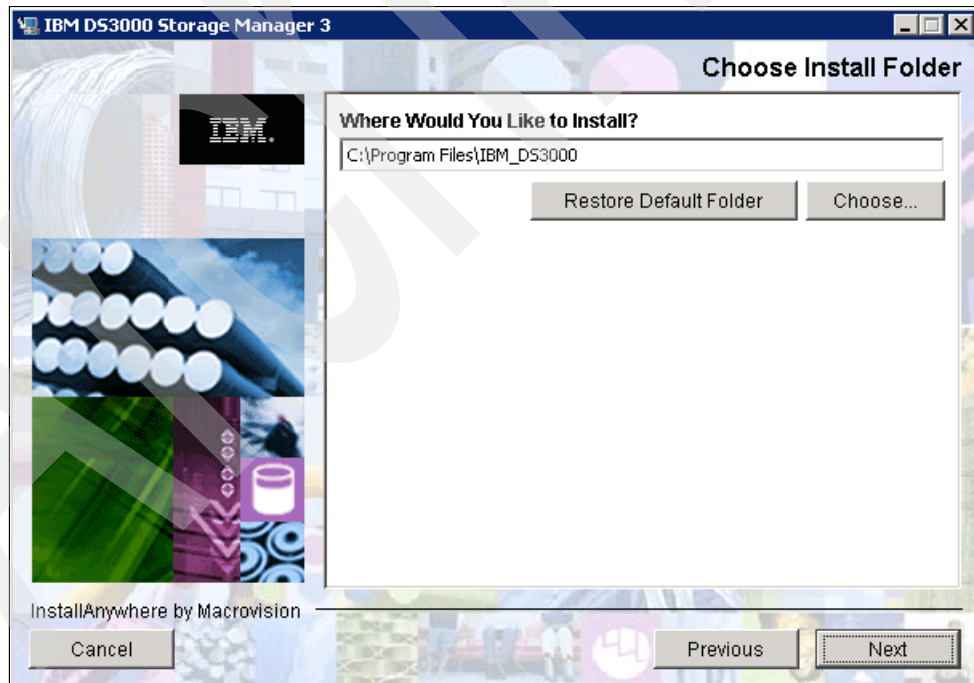

Figure 6-6 Select installation directory
6. Specify the directory where you want to install, as shown in Figure 6-6. The default is C:\Program Files\IBM_DS3000.